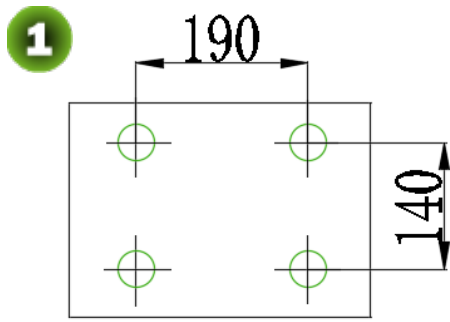

Figure 2-2
- 1) Use Bolt Holes Dimensioning to mark the installation position of the cabinet, as shown in Figure 2-2